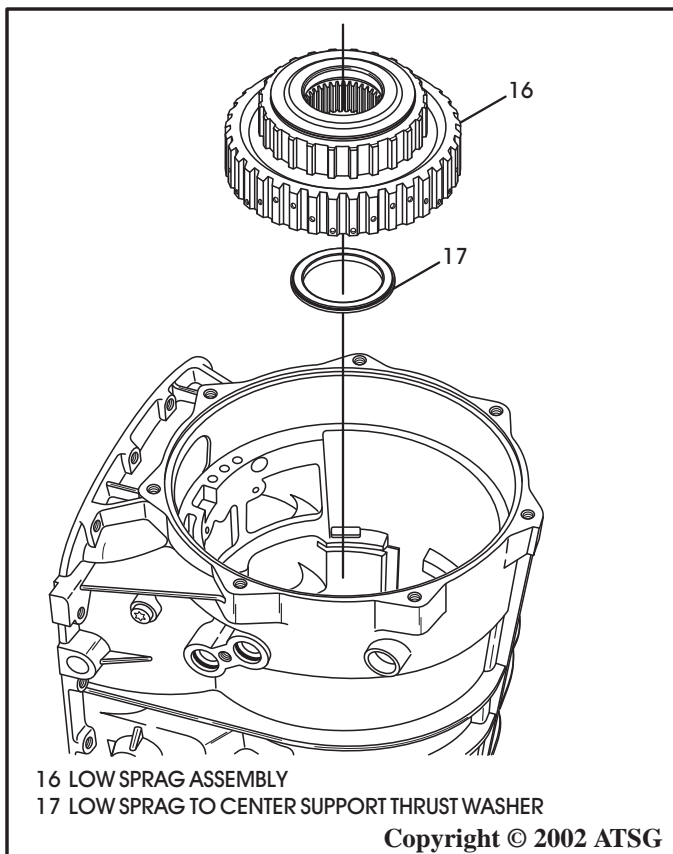

Figure 177
4. Install thrust bearing on the back side of the low sprag assembly and retain with a small amount of Trans-Jel® (See Figure 177).
5. Install the low sprag assembly until fully seated by rotating back and forth to engage the low/reverse clutch plates (See Figure 177).